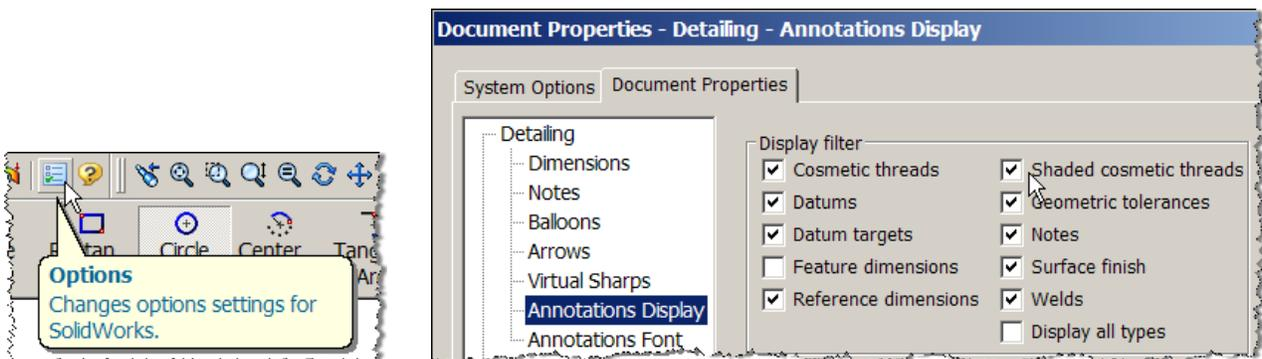
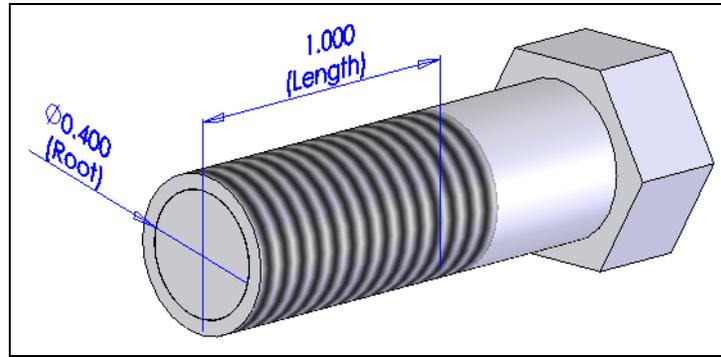

Figure 7 Changing the thread annotation display option
Figure 8 Resulting “threads”
2. In the **Display filter** check **Shaded cosmetic threads**, as well as **Cosmetic threads** (as illustrated in Figure 7). The final result is seen in Figure 8.